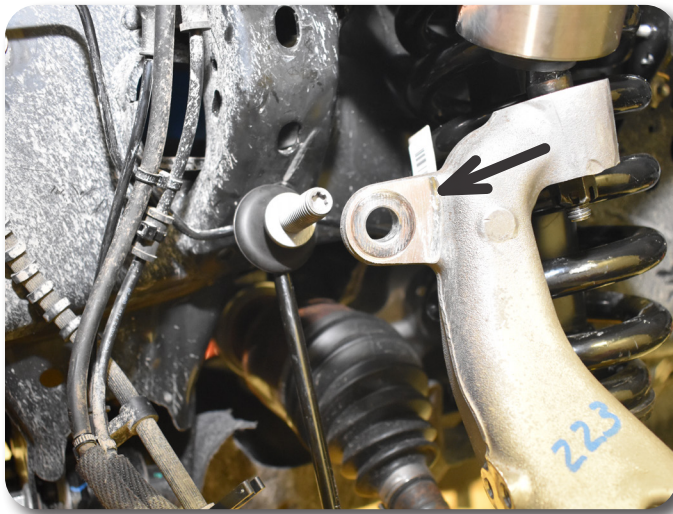

Figure 1
5. Disconnect the driver's and passenger's side front sway bar links from the steering knuckle (2021+) or lower control arm (2009-2020). **Figure 1**